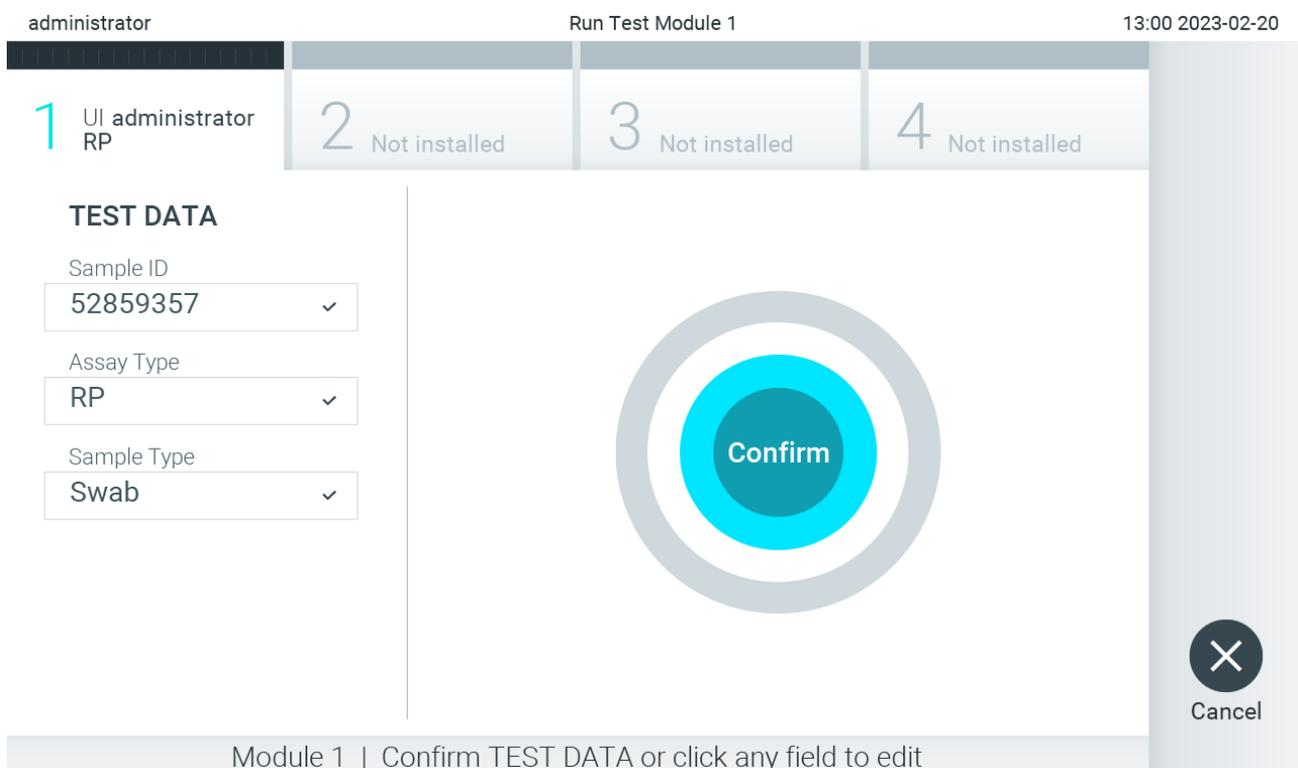

Figure 26. The confirm screen.
- The Confirm screen will appear. Review the data entered and make any necessary changes by pressing the relevant fields on the touchscreen and editing the information (Figure 26).